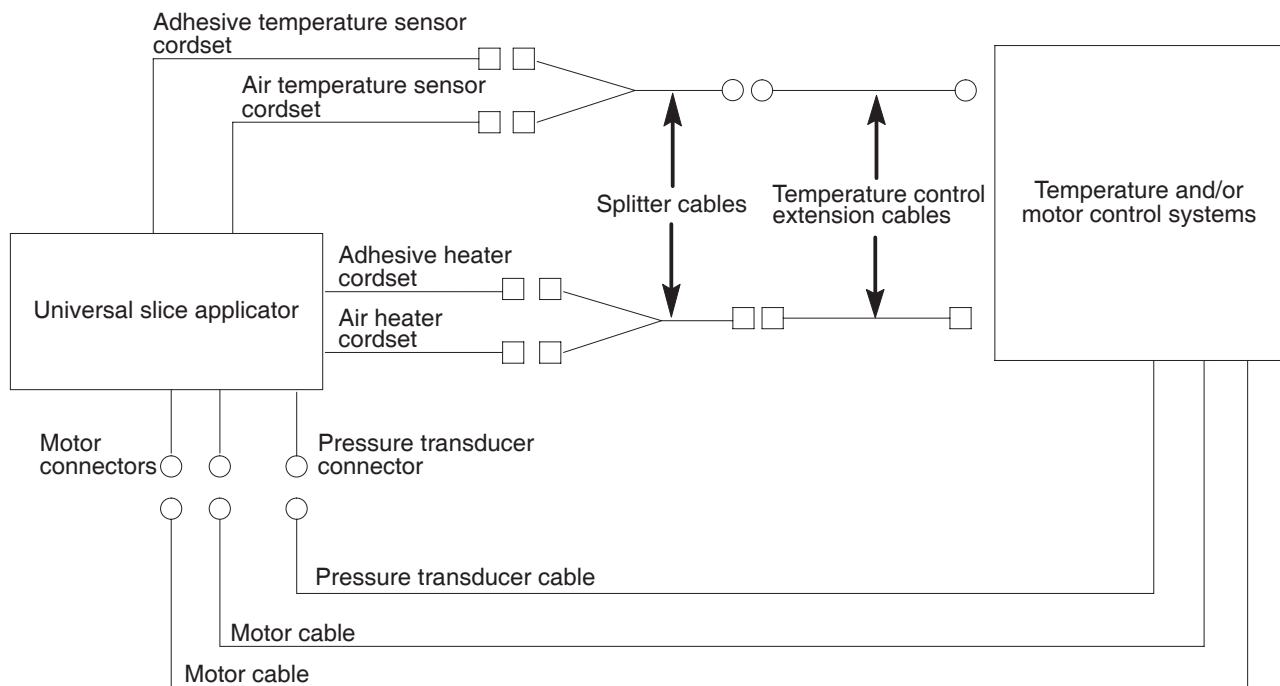

Figure 8-20 Example of how extension and splitter cables are used to connect the applicator cordsets/connectors to a control system
- **Splitter cables** can be connected to the slice applicator cordsets so that extension cables can then be used to connect the splitter cables to the control system. See Figure 8-20 for an example.
- **Extension cables** are used to connect splitter cables to the control system. See Figure 8-20 for an example.